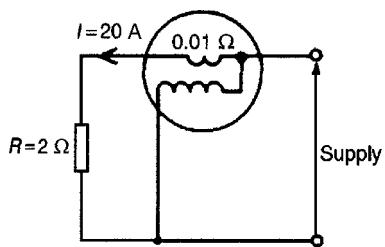

Figure 10.13
(b) A wattmeter, whose current coil has a resistance of 0.01Ω is connected as shown in Fig. 10.13 Determine the wattmeter reading.
- 2 (a) A current of 15 A flows through a load having a resistance of 4Ω . Determine the power dissipated in the load. (b) A wattmeter, whose current coil has a resistance of 0.02Ω is connected (as shown in Fig. 10.13) to measure the power in the load. Determine the wattmeter reading assuming the current in the load is still 15 A.